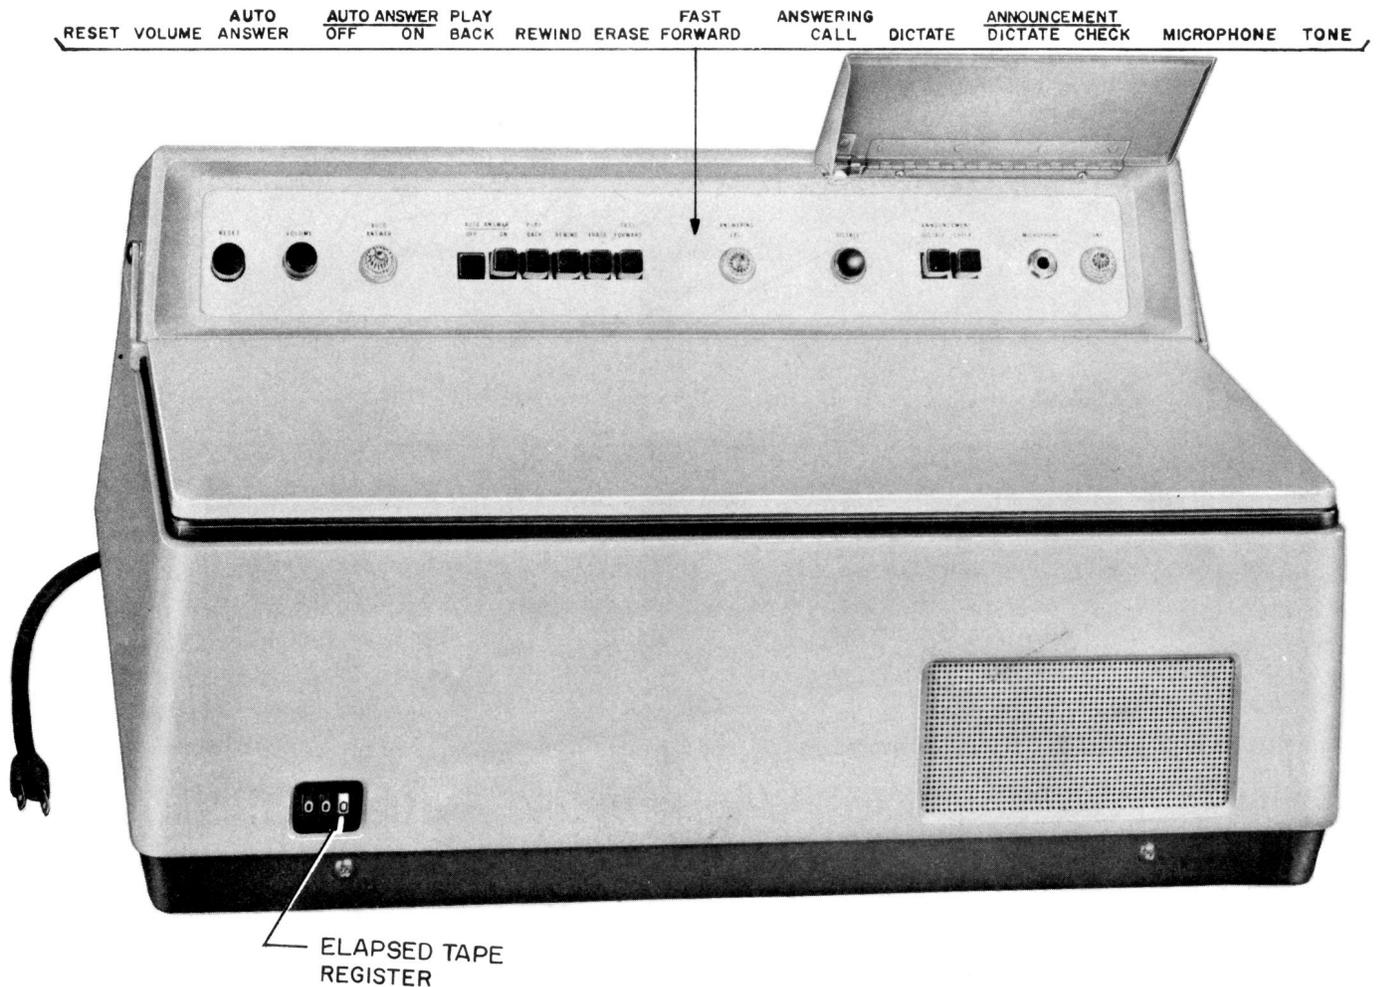

Fig. 1 — KS-16923, List 1 Telephone Answering Set (Showing Controls)
1.02 The KS-16923, List 1 telephone answering set (Fig. 1) has been designed to facilitate maintenance by the use of plug-in assemblies. Replacement of these plug-in assemblies may require